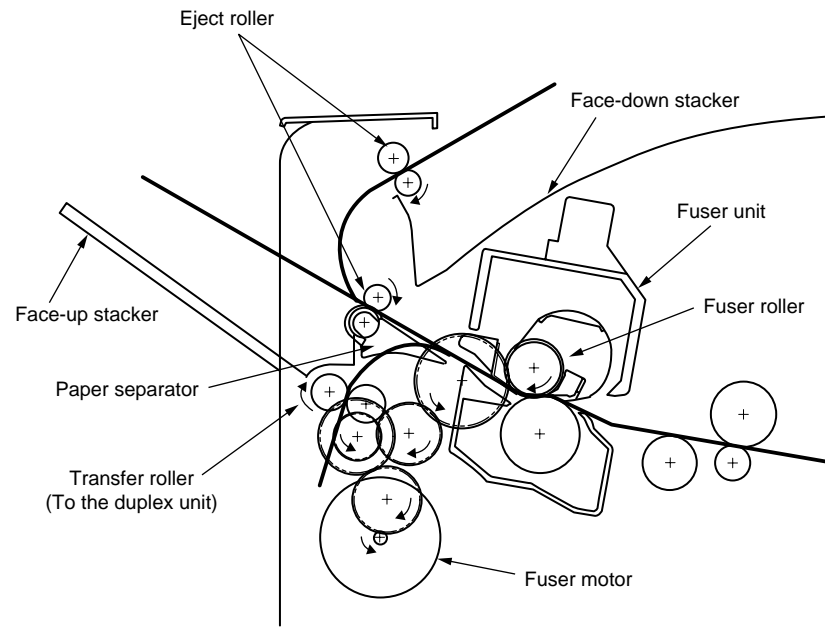

Figure 2-8
1. As illustrated in Figure 2-8, the fuser unit and the eject roller are driven by the DC motor. As the fuser motor rotates (counterclockwise), the Fuser roller rotates. This roller fixes toner images by heat and pressure.